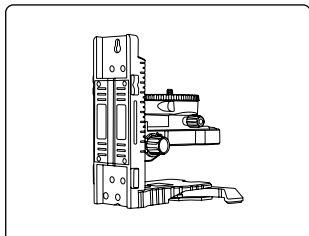

FIGURE 11
- Remove the rear mounting adapter piece if attached (Fig.11).